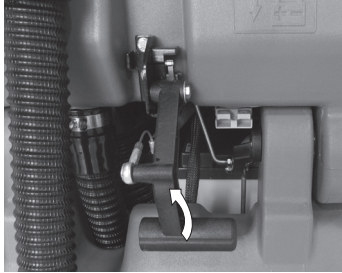

Figure 6
2. Pull the squeegee lifting rod upwards (Figure 6).